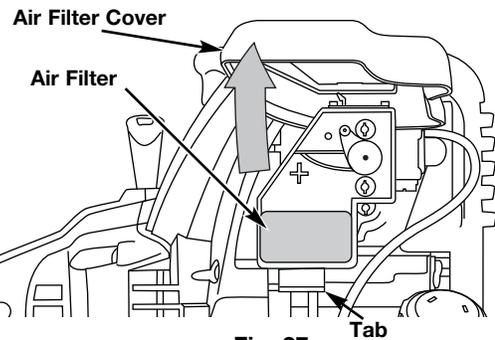

Fig. 27
1. Open the air filter cover. Push the tab on the under side of the cover inward. Then pull the air filter cover out and up. (Fig. 27).
6. Replace the filter (Fig. 27).